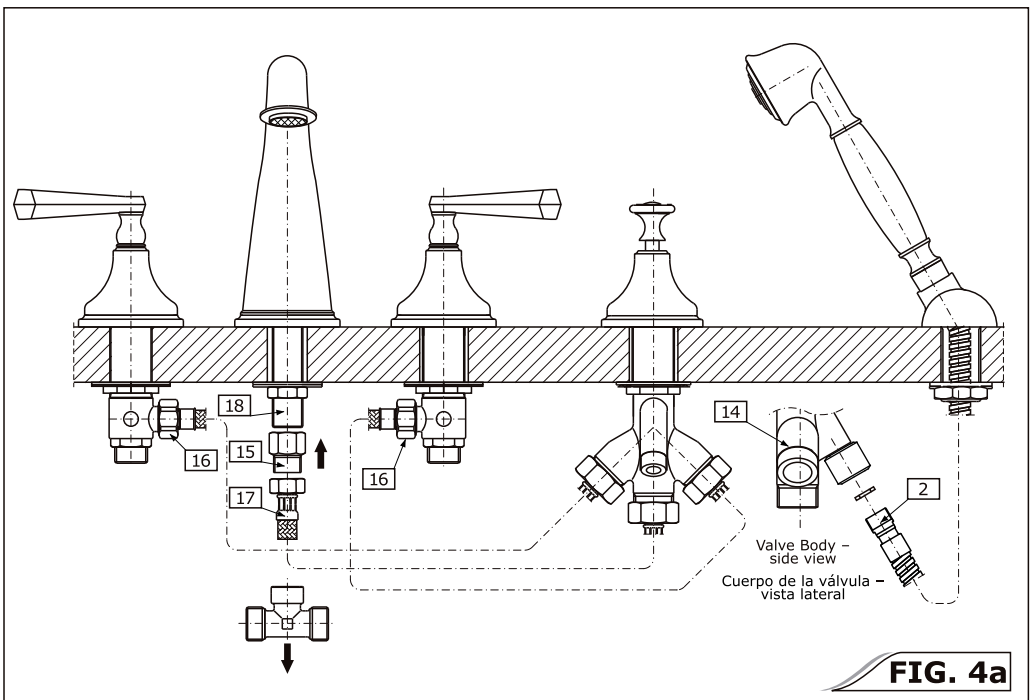

FIG. 4a
- 1) Position the shower head base (3) in the axis of the assembly hole. Ensure that the washer (4) of the base is properly in place under the base (3).
- 2) Put the rubber pad (5) on from below and screw on the flange nut (6). Position the base and screw home the nut (6).
- 3) Put the coated shower head nut with the external o-ring through the shower hose (2). Insert the shower hose (2) through the base of the shower head by its narrow end. Connect the shower head (1) to the hose (2), taking care that the flat seal and check valve (17) is positioned correctly. Screw the other end of the hose (2) into the casing of the valve (14), keeping in mind the positioning of the flat seal.
- 4) Wind the teflon tape onto the threaded pipe (18) of the Roman tub spout and screw on the tube coupling (15). Connect the central outlet of the diverter valve to the tube coupling (15) using the hose (17).
- 5) Install the 19-11/16" (500mm) hoses (16) in place of the 11-13/16" (300mm) hoses as shown in fig. 4a.